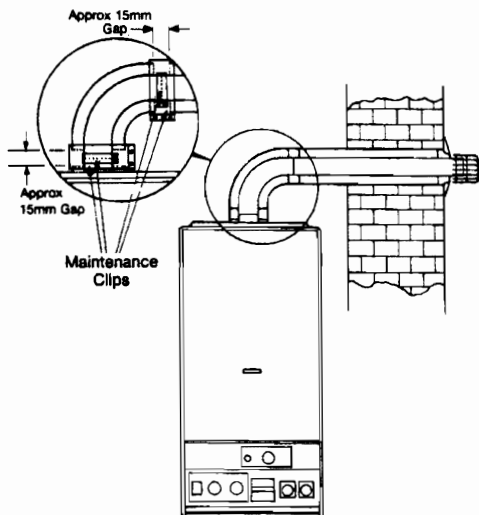

Fig. 43
8.19.5 Remove screws on large maintenance clips (fig 43) and remove clips, loosen screws on the small clips and remove flue elbow.